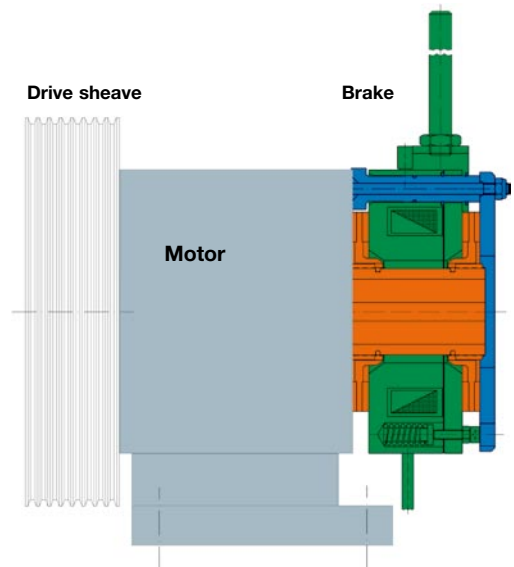

Fig. 2
In passenger elevators as a holding brake and as protection against crashes when the elevator is moving in an upwards direction (see Figs. 2 and 3).
**Brake attachment** on the motor bearing shield or own mounting flange with effect on the drive sheave shaft (see Figs. 2 and 3).